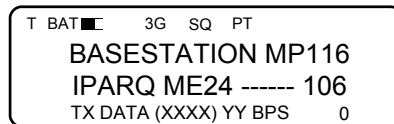

Figure 3-60. Transmitting the Phone Number
- The outstation then proceeds to transmit the entered phone number to the basestation. See Figure 3-60.